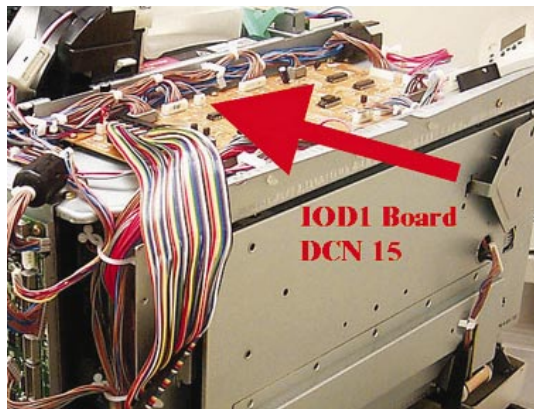

Figure 5 - Connector DCN 15
4. Check the toner key sensor (12G7062), connection to the IOD1 connector, DCN 15 (Figure 5). Reseat the connector and replace sensor if necessary.